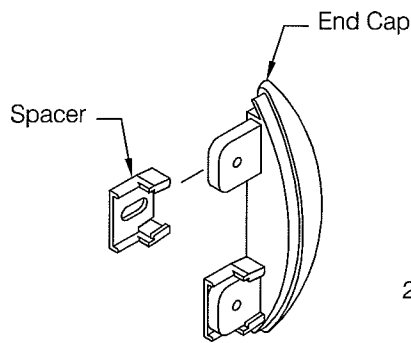
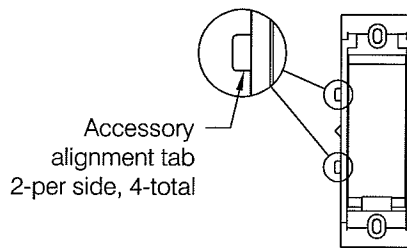
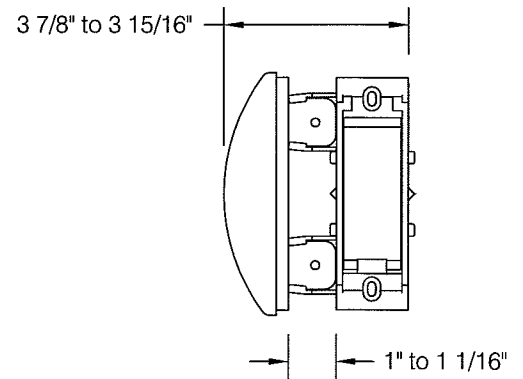

fig 4
fig 5
fig 6
Step 3: A Quik Clip must be installed adjacent to each molded accessory. Begin by installing a spacer on each of the accessory mounting tabs, see **fig 4**. The Quik Clip has four accessory alignment tabs used to facilitate positioning of the molded components with respect to the clip, see **fig 5**. Temporarily locate the accessory and Quik Clip combination by holding them temporarily in their desired position. Remove the accessory and fasten the Quik Clip in place. It is also possible to locate the clip by measuring 3 7/8" to 3 15/16" from the outer edge of the desired accessory location or 1" to 1 1/16" from the inner edge, see **fig 6**.